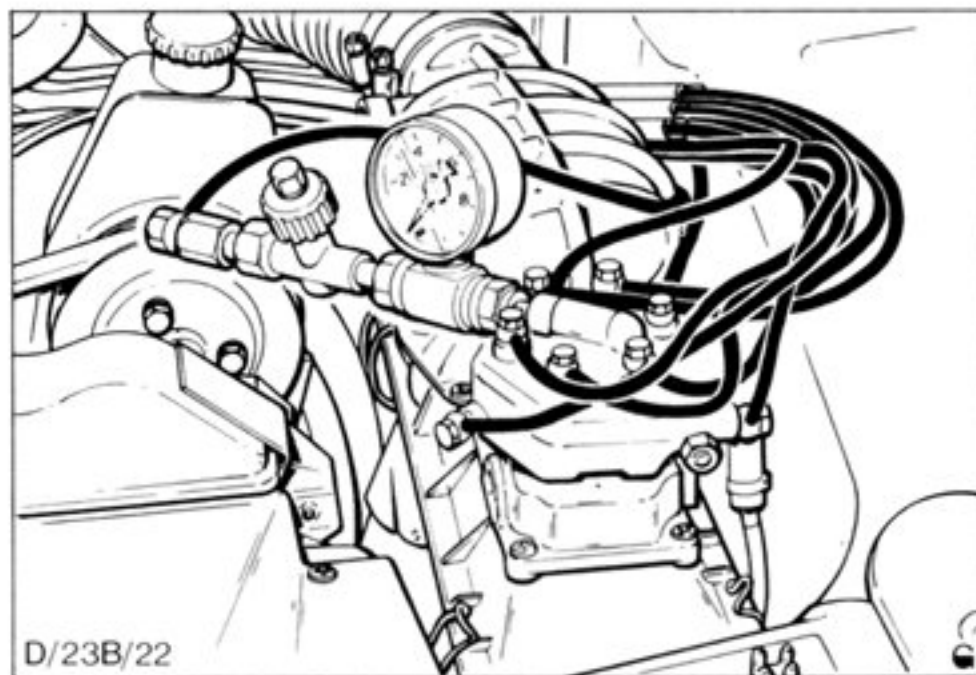

Fig.73. Pressure gauge connected into warm-up regulator feed pipe.
3. Connect pressure gauge (Tool No. 23 011) into warm-up regulator supply pipe circuit, Fig.73.